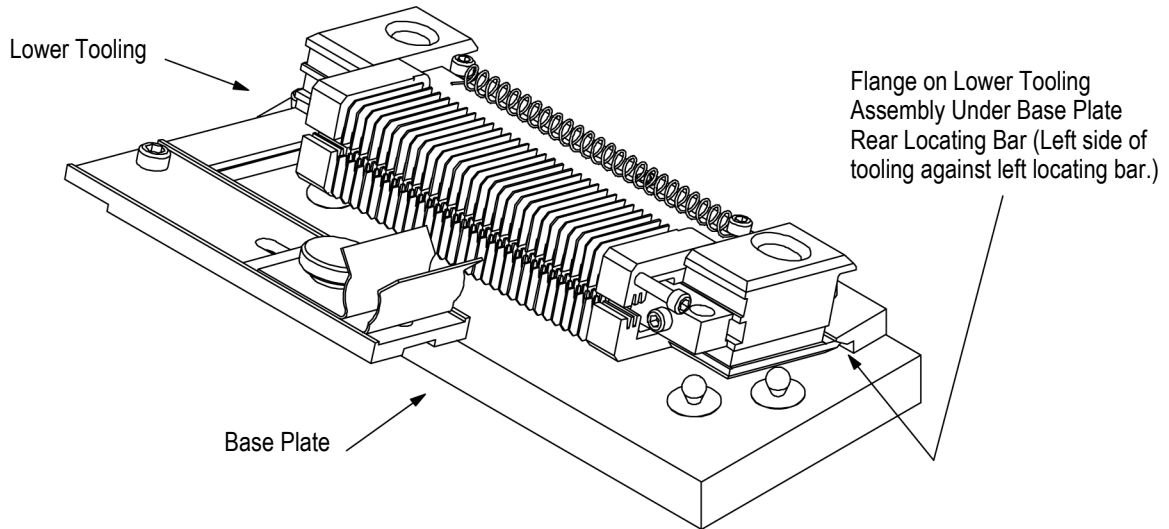

Figure 4
4. Place the lower tooling onto the base plate, as shown in Figure 4. Make sure that the lower tooling flange fits under the base plate's rear locating bar and that the side of the tooling butts against the left locating bar on the base plate. Press down on the lower tooling assembly to snap it in place.